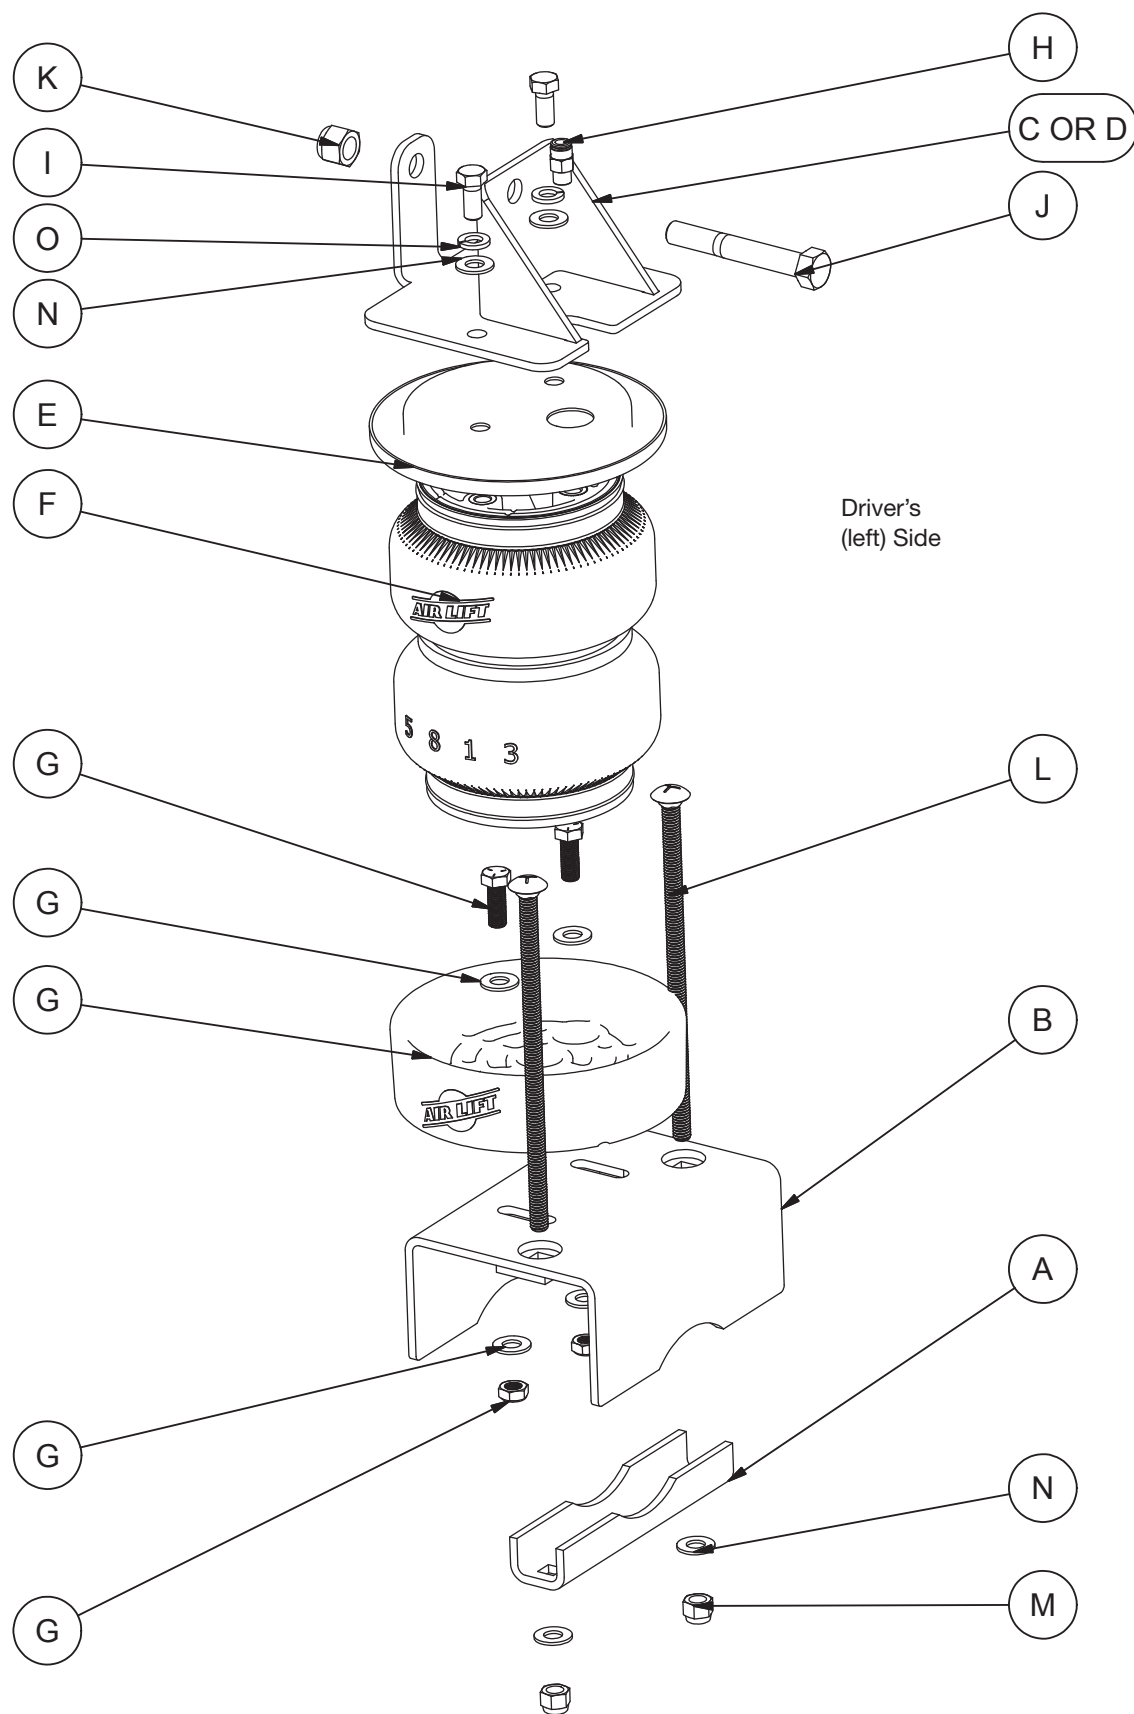

Fig. 1
* These parts are not shown in the System Overview (Fig.1).